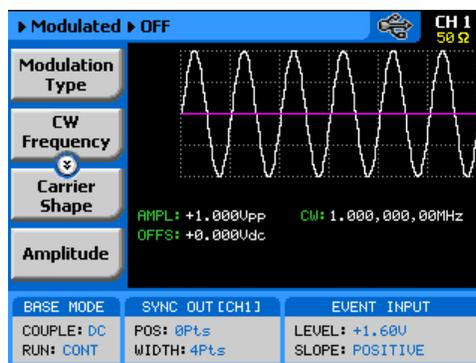

Figure 3-33, The Modulation Function Main Screen
The modulation function is turned on immediately after you press the Modulation button in the Functions group on the right side of the generator. By default, modulation is turned off and therefore, the output generates carrier wave (CW). The first modulation screen is shown in Figure 3-33. The modulation functions and their parameters are described as follows: